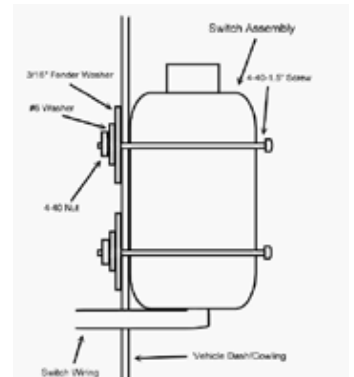

Figure 1.
2. Open the hood and find the recommended contactor location shown in **Figure 1**. Affix the contactor to the recommended location with hardware included with your winch.
13. Finish routing longest wires up along frame and through outlet noted in Figures 1 (pg1) and 12. Do **NOT** connect wires to contactor at this time.
15. Route wires from winch motor end to the contactor location (**Figure 1, pg1**) by running them in front of the radiator. Do **NOT** connect wires to contactor at this time.